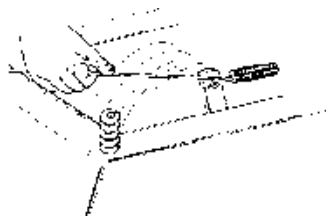

Figure 6.10 Belt tensioner spring plate
1. Hook a piece of wire through the end loop of the auto-adjuster spring Figure 6.10